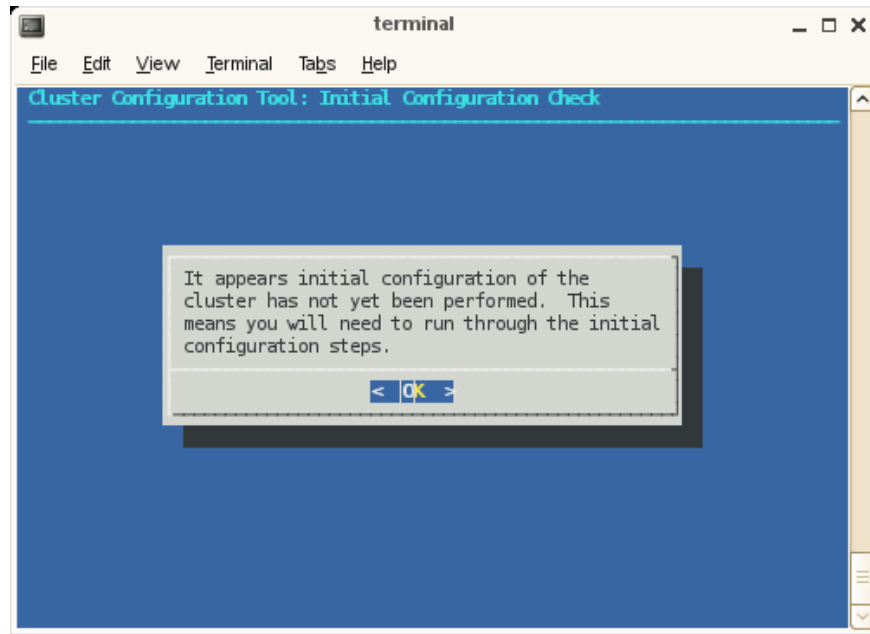

Figure 2-10 Cluster Configuration Tool: Initial Configuration Check Screen
2. The **Cluster Configuration Tool: Initial Configuration Check** screen appears, as shown in Figure 2-10 on page 53. This tool provides instructions on the steps you need to take to configure your cluster. Click **OK** to continue.